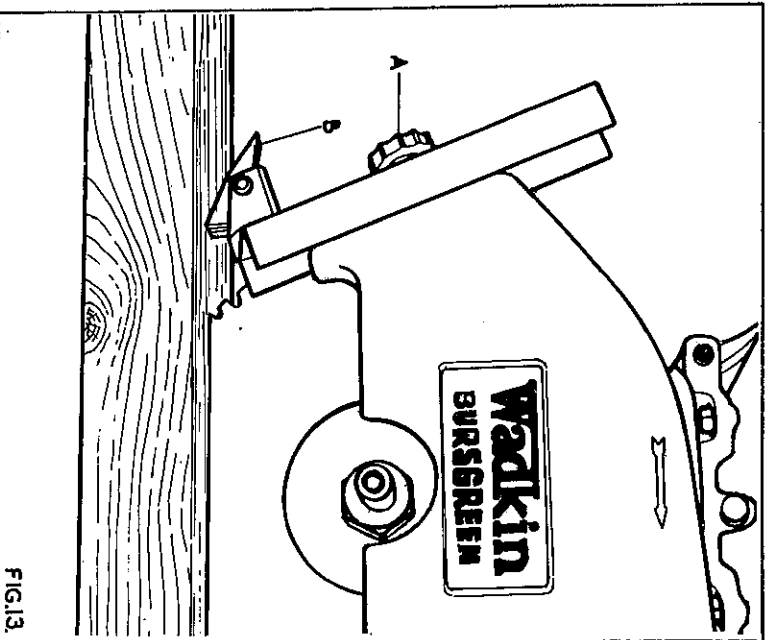

FIG. 13
The guard gives maximum protection for all operations. The guard is fitted with an anti-kick back device as shown in Fig. 13 and riving knife for ripping. The riving knife is easily detachable and can be replaced by a sheet steel visor when used for crosscutting. The visor is adjustable throughout the full depth of cut of the machine. An adjustable rubber dust exhaust is fitted to the guard to direct the sawdust away from the operator.
1. Place timber to be ripped in kick back fingers as shown in Fig. 13.